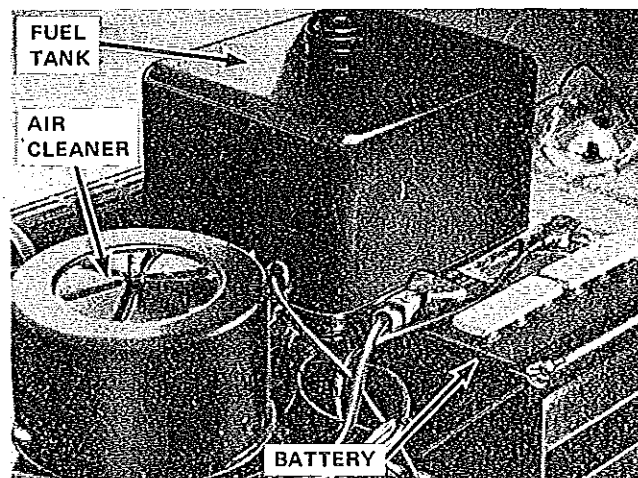

Figure 5
Refer to Figure 5 for battery and its location.
4. Check to see that air cleaner element is free of debris. Check and clean regularly. Refer to Figure 5.